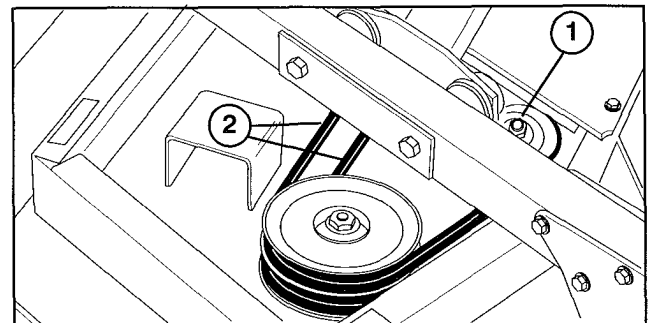

Figure 66
2. To tension belts, loosen flange locknut at top of idler pulley (Fig. 66). Slide pulley against belt until proper tension is reached. Hold pulley in position and tighten locknut.
3. Remove flange head screws securing gearbox plate to deck. To separate plate and drive motor assembly from deck, rotate plate end toward traction unit (Fig. 66). Tip plate, motor and pulley assembly on its side and remove from deck. Be careful not to bend, twist, kink or damage flexible hydraulic lines.
2. Remove deck covers and relieve belt tension on all belts (Fig. 66).